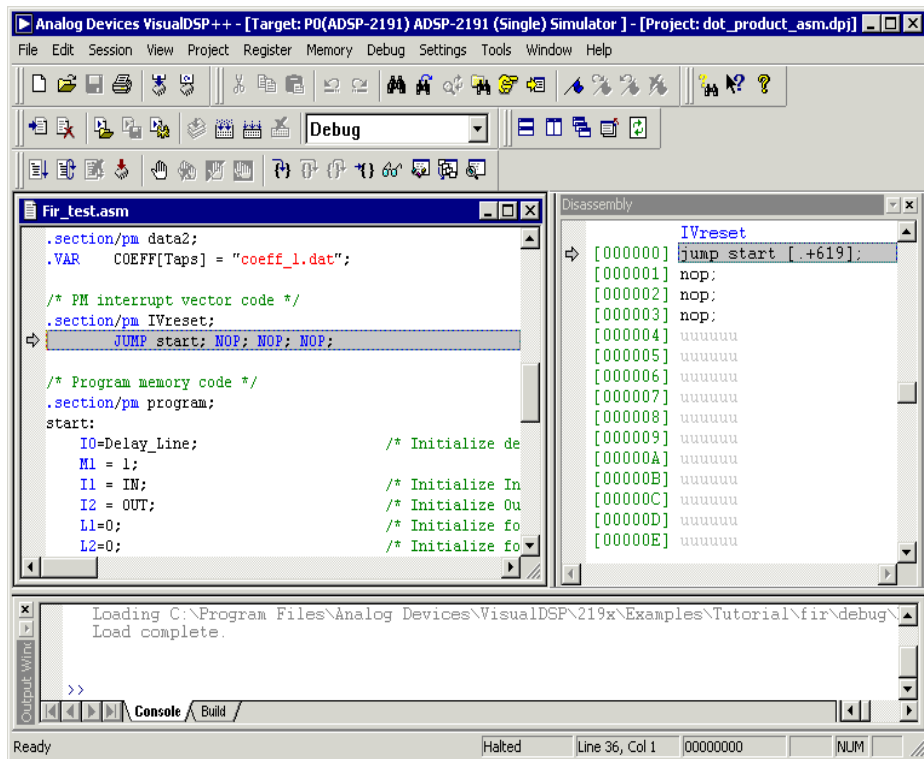

Figure 3-22. Loading the FIR Program
- b. Double-click `fir.dxe` to load the program in an Editor window (Figure 3-22).